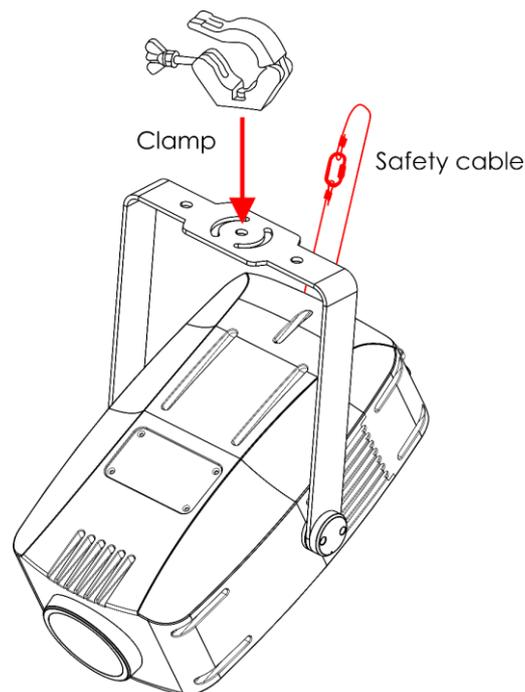

Fig. 07
- 04) Put the safety cable through the safety eye, as shown in Fig. 07.